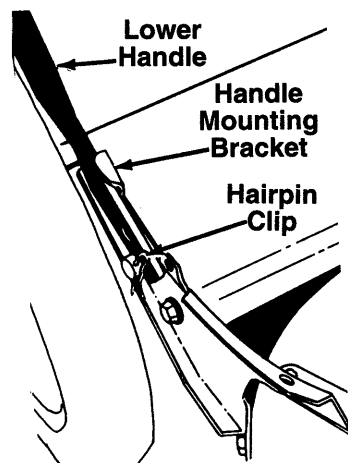

FIGURE 1.
3. Using a pair of pliers, squeeze one leg of the lower handle against the handle mounting bracket. Insert the hairpin clip into the hole on the weld pin. See figure 1. Repeat on other side.